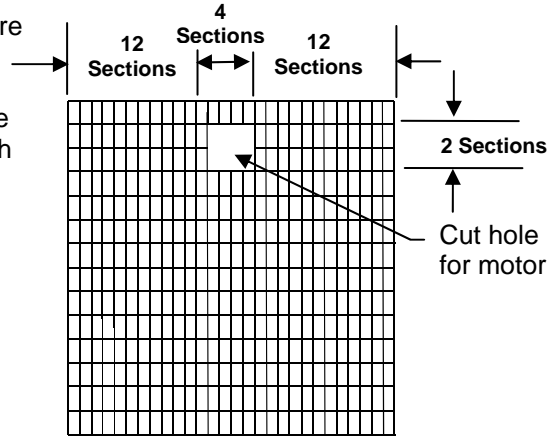
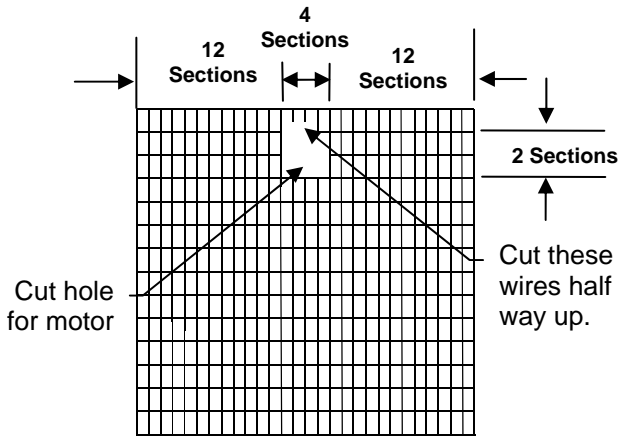
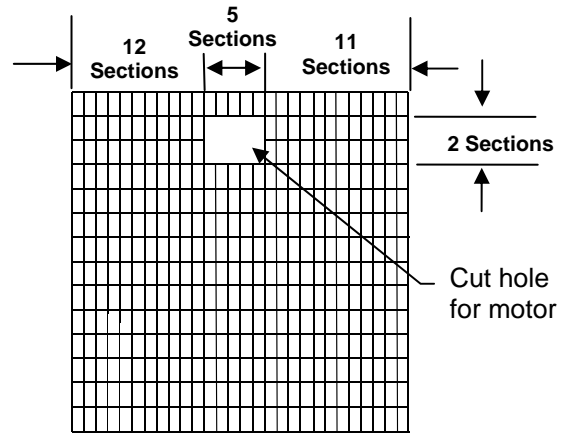

Figure 13A
Figure 13B
Figure 13C
21. This Step is only for the 52" Fan. Verify the power rating of the drive motor in the Fan. The wire guard is shipped with a cut-out for a 1.0 Hp 3Ph motor. The cut-outs for this motor is shown in Figure 13A. If you are using a 1.5 Hp 1Ph Motor, cut the hole as shown in Figure 13B. If you are using a 1.0 Hp 1Ph Motor, cut the hole as shown in Figure 13C.